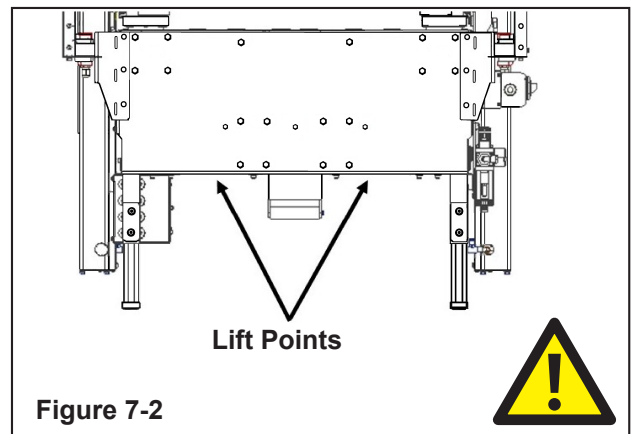

Figure 7-2
1. Lift the machine with belts or ropes paying attention to place the belts in the points (Figure 7-2). To set the machine bed height, do the following: